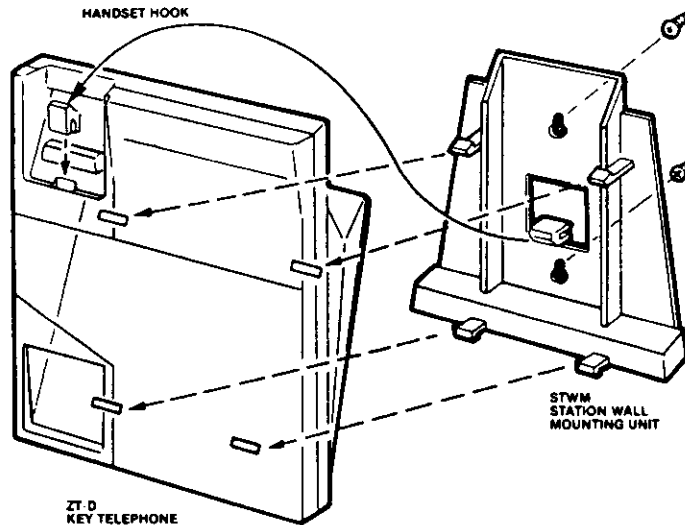

FIGURE 4-53
2. Remove a Handset Hook assembly from the center of the SWMU-Z wall mount and insert it into the slot on the upper cradle of the key telephone as shown in Figure 4-53.